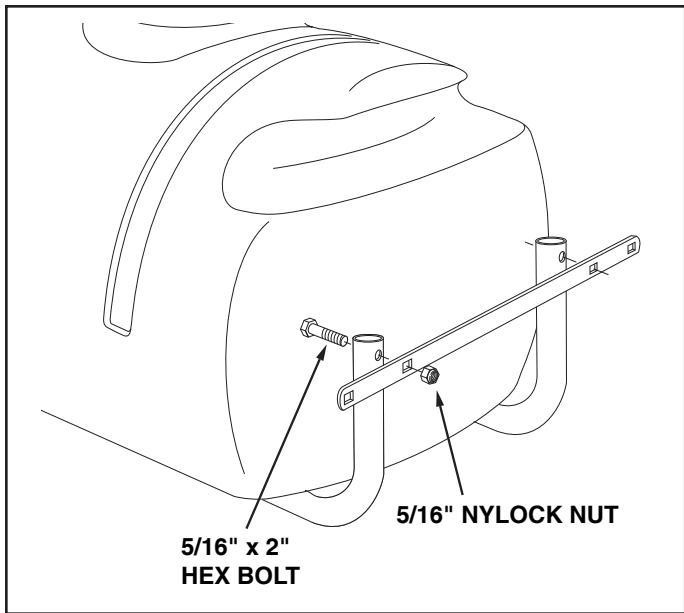

**FIGURE 4**
7. Fasten the ends of the hitch arms together using two 5/16" x 1-1/4" hex bolts and 5/16" nylock nuts. **Do not tighten yet.** See figure 4.
8. Assemble the hitch brackets to the hitch arms using two 5/16" x 2" hex bolts and 5/16" nylock nuts. Position each bolt behind a cross bolt in the hitch arms. **Do not tighten yet.** See figure 4.
9. **Tighten all bolts** starting with the bolts in figure 3, then the bolts in figure 4.